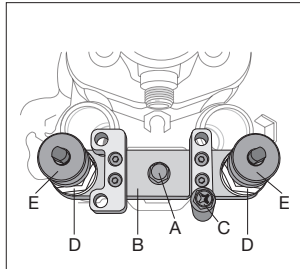

Fig. 3
4. Refer to Figure 3: Fit the Laser 7084 tool (B) over the pair of injectors. Secure with the screws A and C (initially just screw in a few threads).